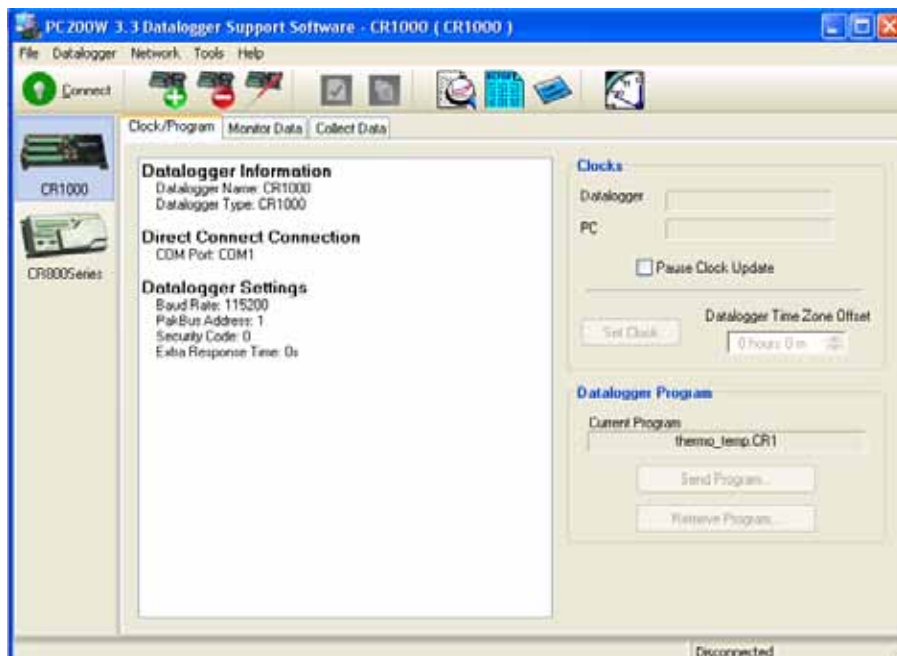

Figure 7. Main screen of PC200W software.
- f. **Once you succeed in communicating with the datalogger** your screen will look like Figure 7 below.